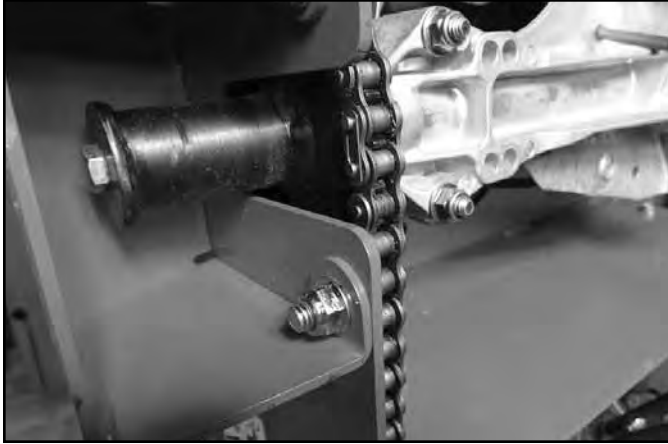

Fig. 127
3. Install the drive chains onto the idler and transmission sprockets. Insert the master link so that the spring clip is toward the outside of the machine and the opening is to the back of forward rotation. Do not tighten the chains at this time (Fig. 127).